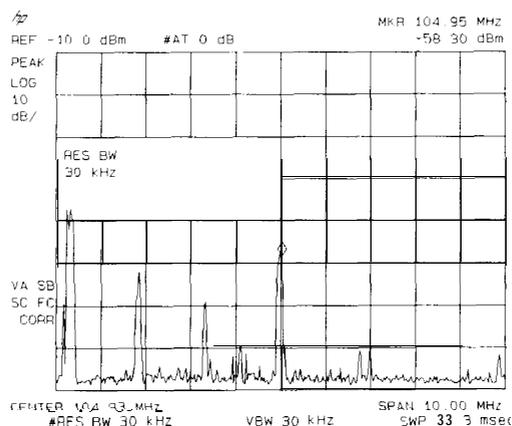

Figure 3-18. Decreasing Resolution Bandwidth
2. Press (BW) then (\downarrow). The low-level signal appears more clearly because the noise level is reduced. See Figure 3-18.